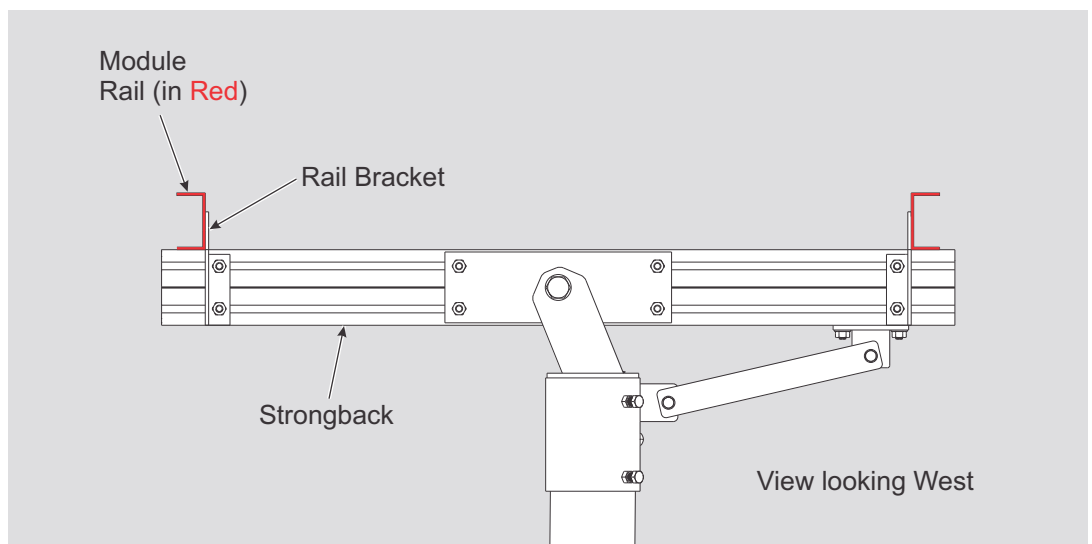
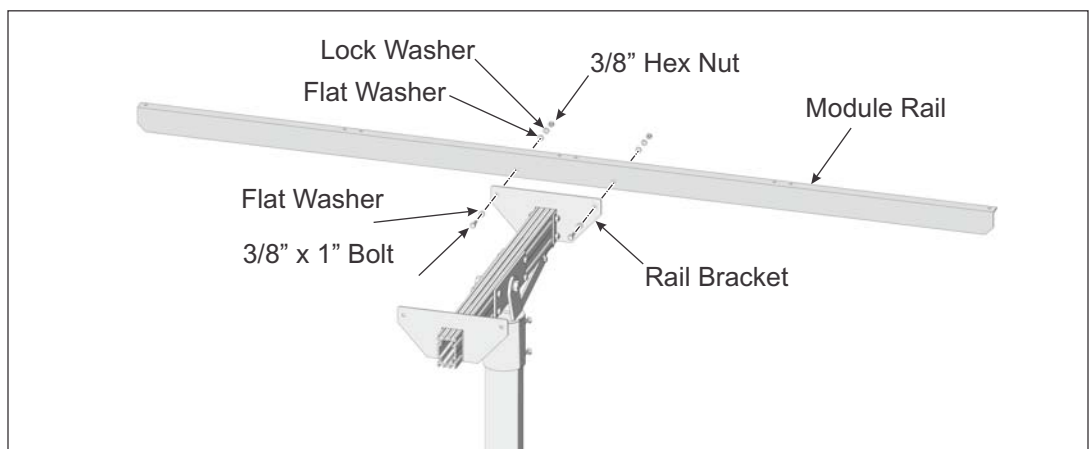

Figure 3-1: Orientation of Module Rails to Rail Brackets
Figure 3-2: Installing Module Rails to Rail Brackets
Module Rail orientation is dependent on location. Follow these instructions carefully for the correct orientation. (See Figure 3-1)
- A. Referring to Figure 3-1 for orientation of the Module Rails, position the Module Rail on the Rail Bracket. Align the Module Rail mounting holes with the holes of the Rail Bracket and secure with 3/8" x 1" bolts and hardware. Finger-tighten for now. (See also Figure 3-2)
- B. Continue in this manner and install the second Module Rail while following Figure 3-1 for proper orientation of the Rails to the Rail Brackets.